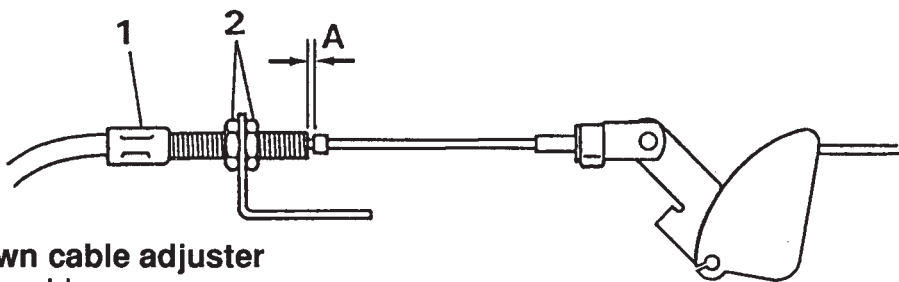

Fig.7 Kickdown cable adjuster
2. Measure the crimp gap 'A' (fig.7); it should be 0,50 to 1,00 mm (0.020 to 0.040 in.).